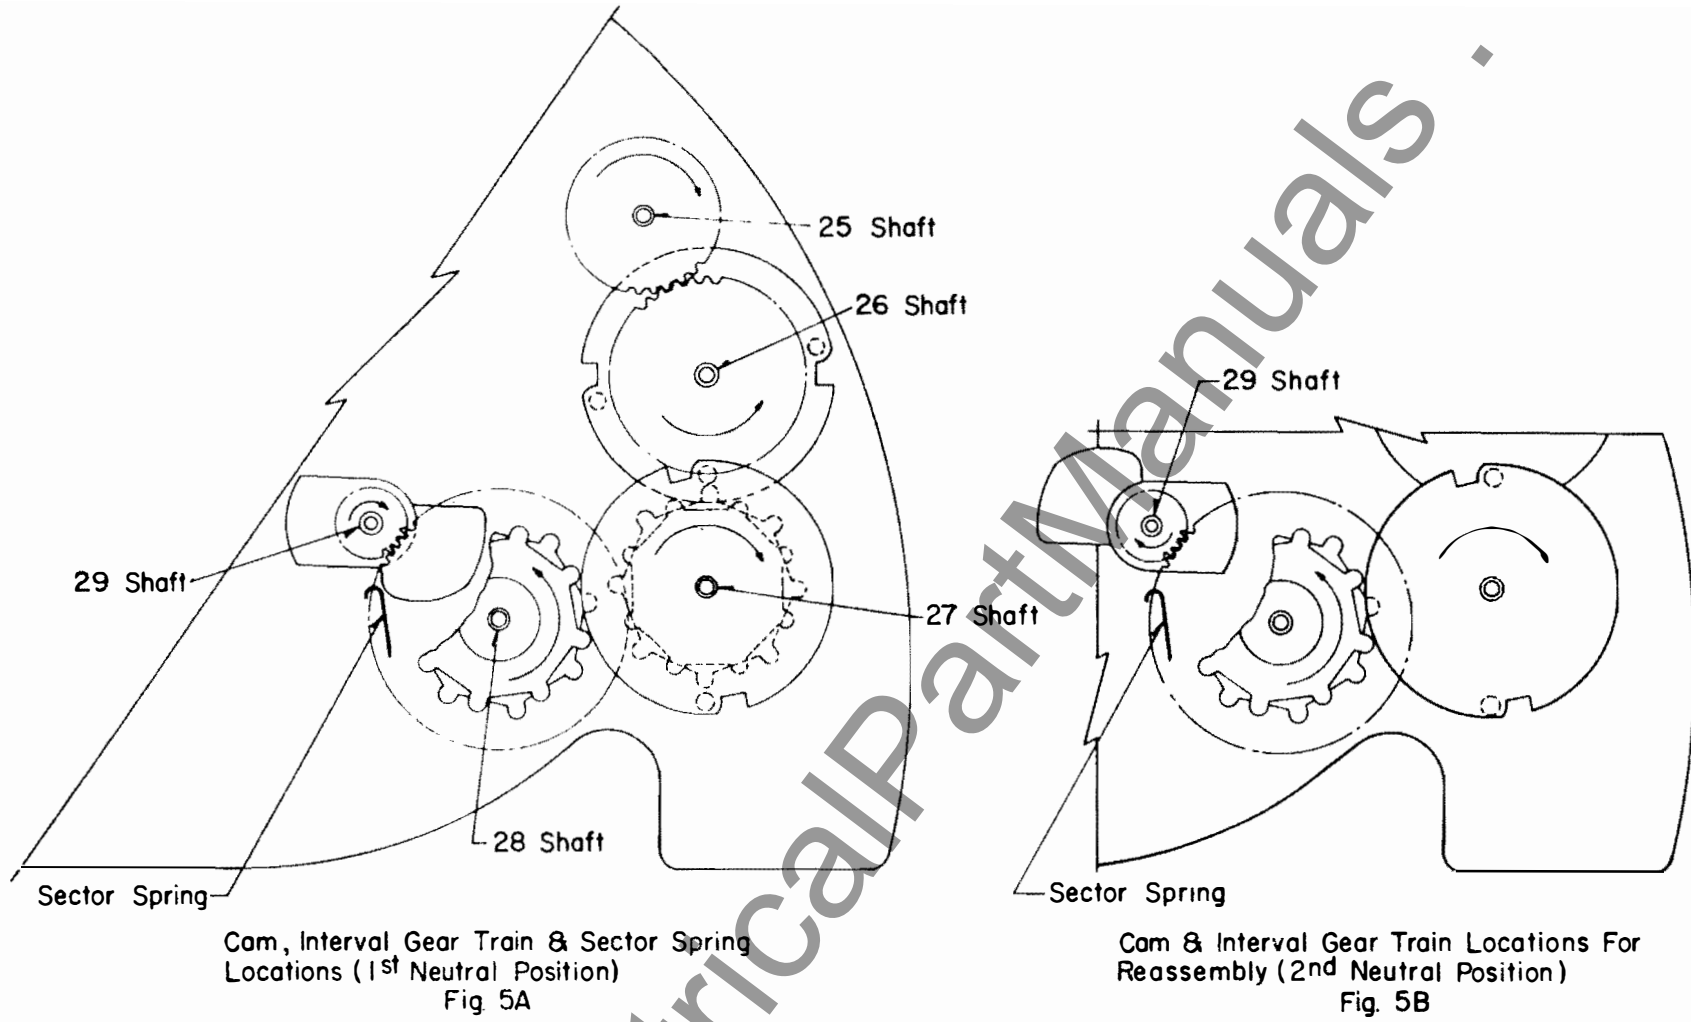

Fig. 5a & 5b Cam & Interval Gear Train Locations for Reassembly.
Before the middle plate was assembled the interval gear train was positioned so that the cam neutral positions were as shown in Figures 5a and 5b. To insure the best location for smooth tripping action and proper open-time, the following check should be made.
- a. Rotate the (1) shaft until the demand pointer is deflected to the off-scale (pegged) position.
- b. Rotate the (25) shaft until the cam is in the first neutral position as shown in Figure 5a. Check to see that the sector spring is almost in contact but not putting pressure on the forward edge of the cam.